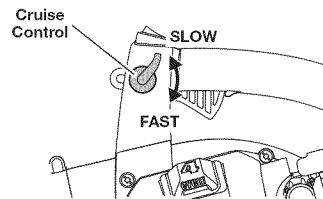

Fig. 12
1. Move the variable speed cruise control toward the FAST position to incrementally increase or maintain the unit's engine speed (Fig. 12). When the variable speed cruise control is pressed, the trigger will recede into the handle.
2. To decrease engine speed, move the variable speed cruise control to the SLOW position and the trigger will return to idle (Fig. 12).